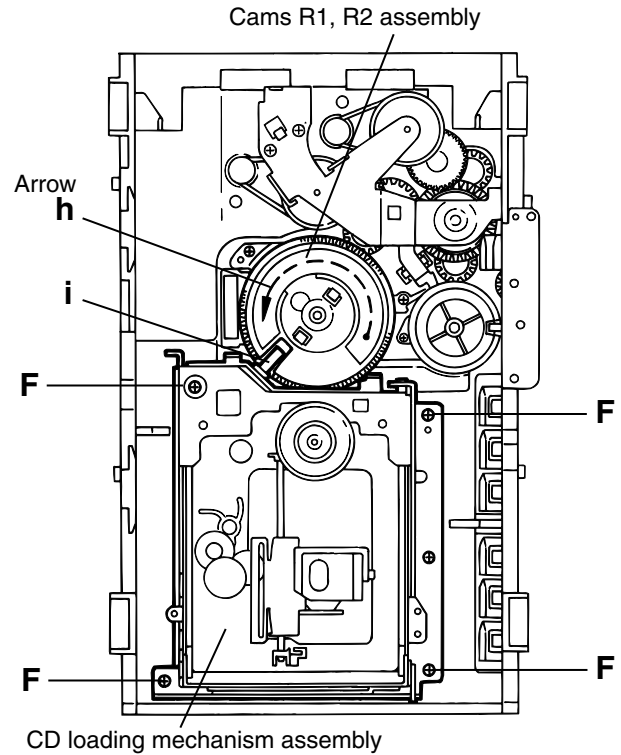

Fig.10
Removing the CD loading mechanism assembly(See Fig.10)
1. While turning the cams R1 and R2 assembly in the arrow direction "h" ,align the shaft "i" of the CD loading mechanism assembly to the position shown in Fig.10.